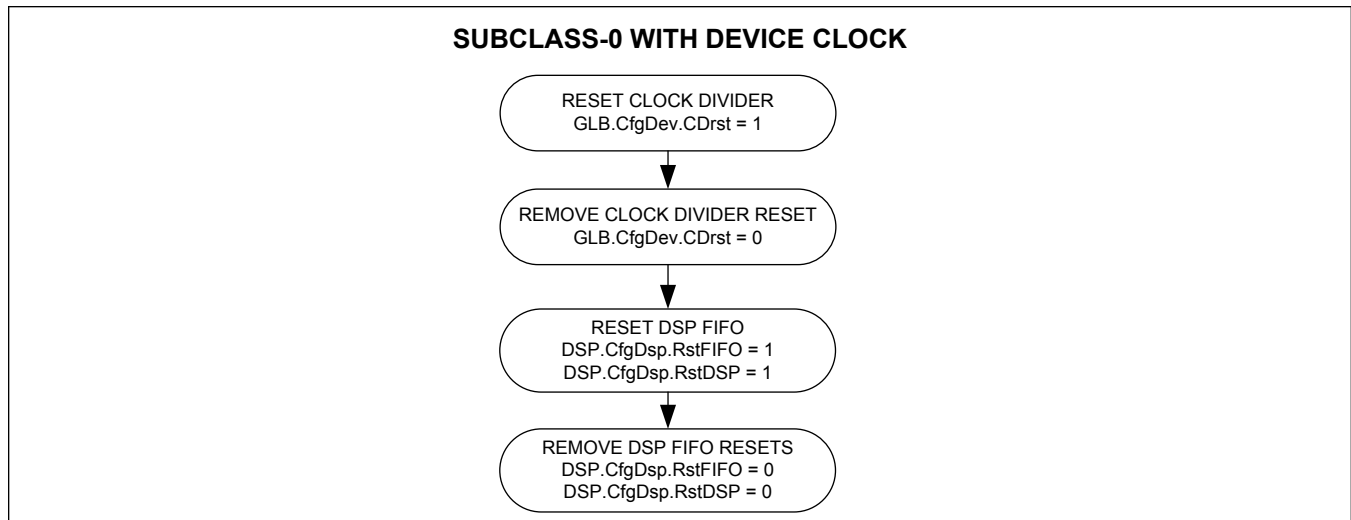

Figure 34. DAC Reset Sequence
**FIFO Resets:** After the clock modes are configured and after a sufficient wait time has passed to allow the DAC PLL to lock, the DSP clock divider needs to be reset. Next the Rx LINK and DSP FIFOs need to be centered through the configuration process of Subclass-0 mode. Depending on the sample clock source, the setups shown in Figure 34 are used for Subclass-0.